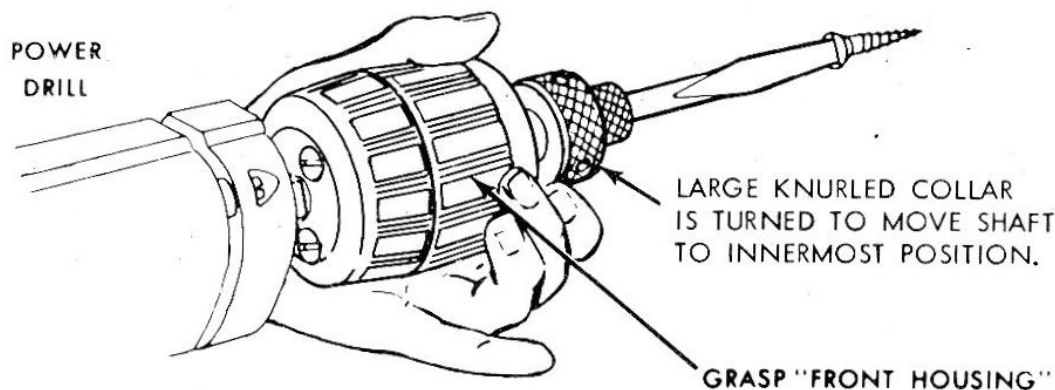

FIG. 4 POSITION FOR DRIVING SCREWS
- (1) Drill pilot hole and insert screw in it. (Consult chart on back page.)
- (2) Attach Speed Reducer to drill. (See page 2—“The Input Shaft.”)
- (3) Attach proper bit to output shaft. (See page 5.)
- (4) Turn output shaft to innermost position. (See Figure 4—page 5.)
- (5) Hold Speed Reducer by front housing.
- (6) Turn on power and drive screw.